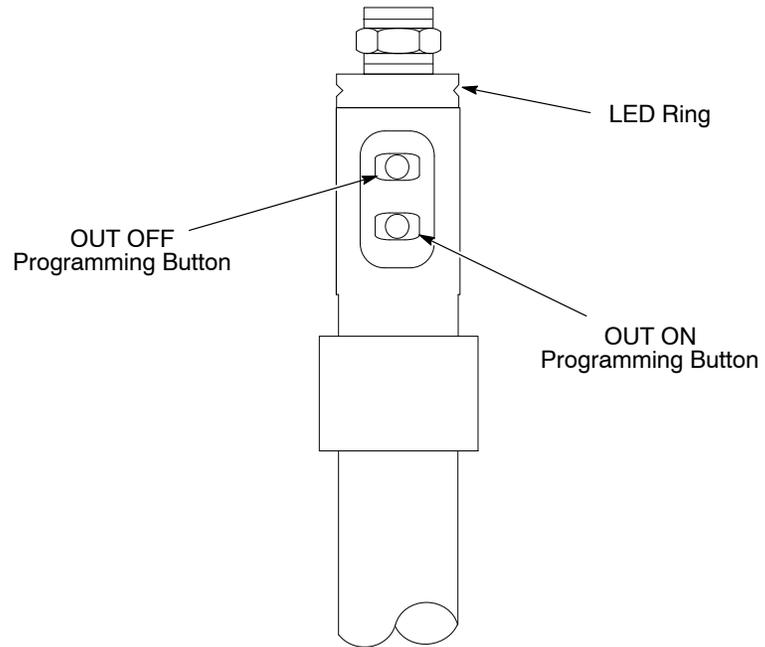

Figure 12 Programming the Two Button Level Sensor Probe
3. See Figure 12. Press the OUT OFF programming button until the LED ring slowly flashes yellow.
2. See Figure 12. Press the OUT ON programming button until the yellow light from the LED ring goes from flashing slowly to flashing quickly.